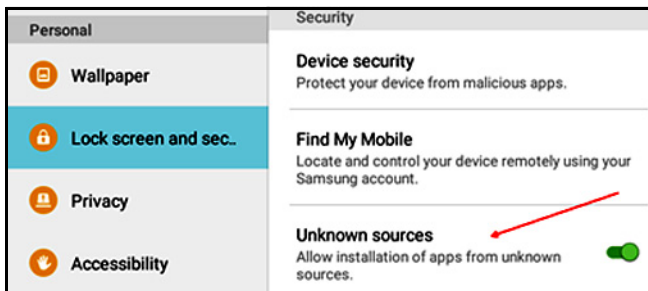

Figure 56: Security Settings
2. In the tablet settings, enable the security option to allow the installation of software from “Unknown sources” for this installation only (see *Figure 56* below).